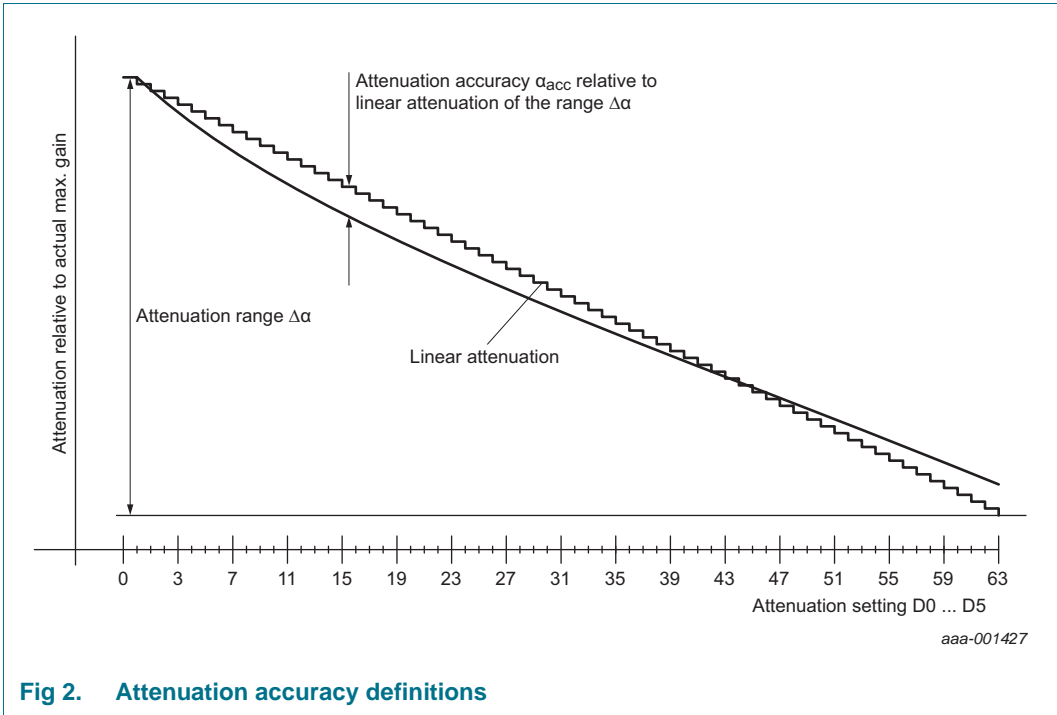

Fig 2. Attenuation accuracy definitions
- [1] Normalized to maximum gain and attenuation; see Figure 2.